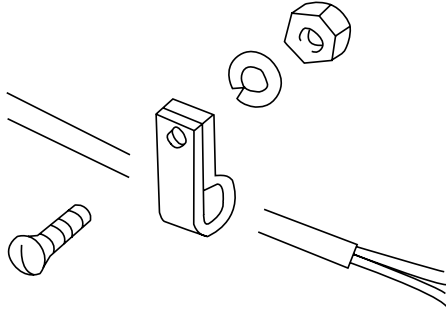

Figure 15. Plastic cable retainer assembly.
4. Place cable over spacer near cable hole, then securely tighten assembly to frame. Use the two smaller spacers (Item 4), machine screws (Item 5), and self-locking elastic stop nuts (Item 6) to attach mounting plate to frame (Figure 15). Tighten stop nuts to a torque value of 16-18 in-lbs.
Note: Some models of reclosers require new holes drilled before attaching the mounting plate. Refer to Figure 15 for correct positioning of mounting plate.